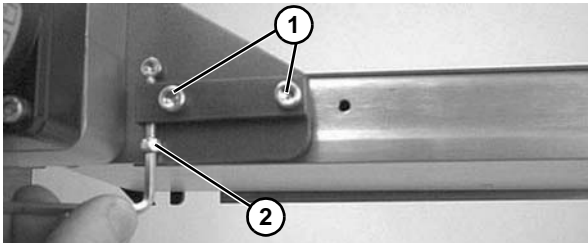

Figure 52
1. Loosen two (2) screws (Figure 52, item 1). Tighten timing belt tensioner screw (Figure 52, item 2) to 15 in-lb (1.7 Nm).
2. Tighten screws (Figure 52, item 1) to 80 in-lb (9 Nm).
1. Loosen two (2) screws (Figure 52, item 1).
2. Loosen timing belt tensioner screw (Figure 52, item 2).
8. Tighten timing belt tensioner screw (Figure 52, item 2) to 15 in-lb (1.7 Nm)
9. Tighten screws (Figure 52, item 1) to 80 in-lb (9 Nm).